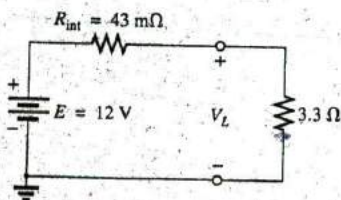

FIG. 5.126
44. a. Find the voltage to the load (full-load conditions) for the supply in Fig. 5.126.